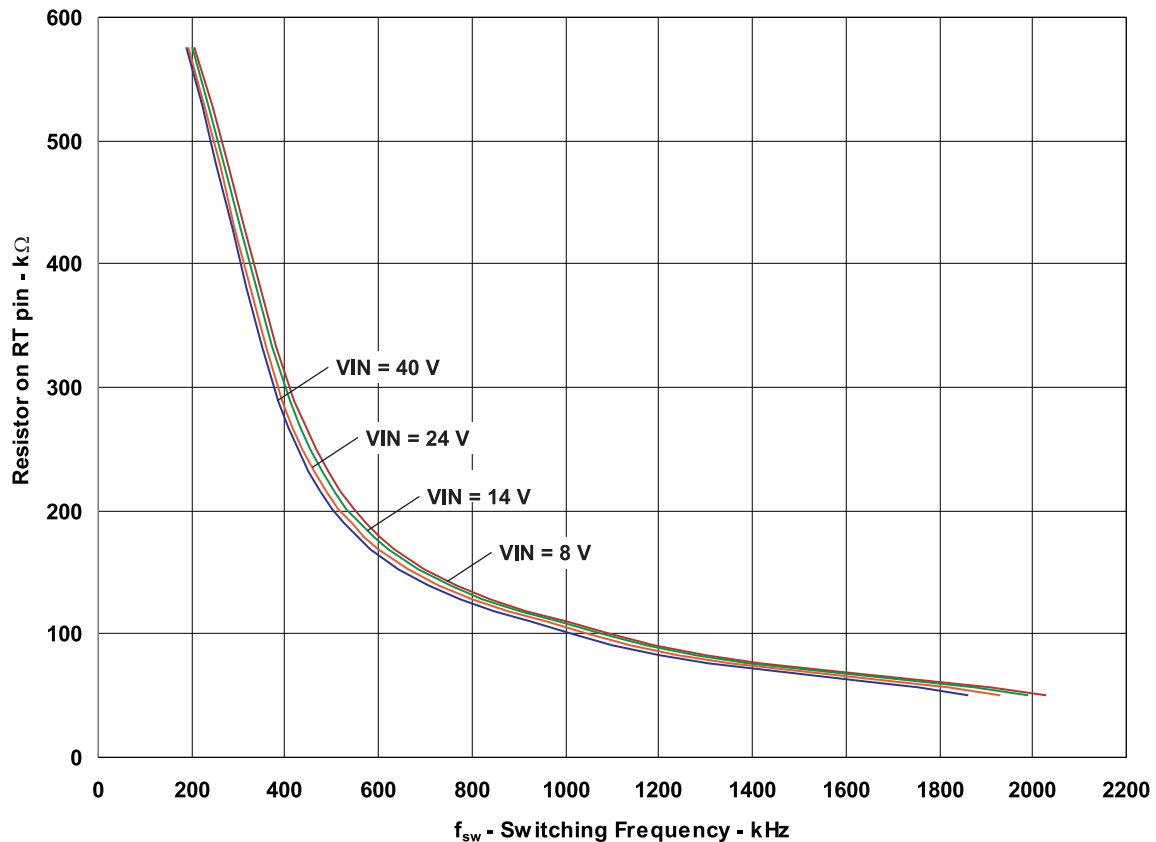

Figure 10. Switching Frequency vs Resistor Value
The oscillator frequency can be set by connecting an external resistor (R8 in Functional Block Diagram) to RT pin (pin 6). Figure 10 shows the relation between the resistor value (RT) and switching frequency (f_{sw}). The switching frequency can be set in the range 200 kHz to 2200 kHz. In addition, the switching frequency can be imposed externally by a clock signal (f_{ext}) at the SYNC pin.
Knowing the switching frequency, the value of resistor to be connected at RT pin can be calculated using the graph shown in Figure 10. Consider the oscillator tolerance ($\pm 10\%$) while selecting the external RT resistor. For example if $f_{\text{sw}} = 2.2 \text{ MHz}$ is required, select the RT resistor which corresponds to $f_{\text{sw}} = 2 \text{ MHz}$ in Figure 10 to allow $+10\%$ oscillator tolerance.